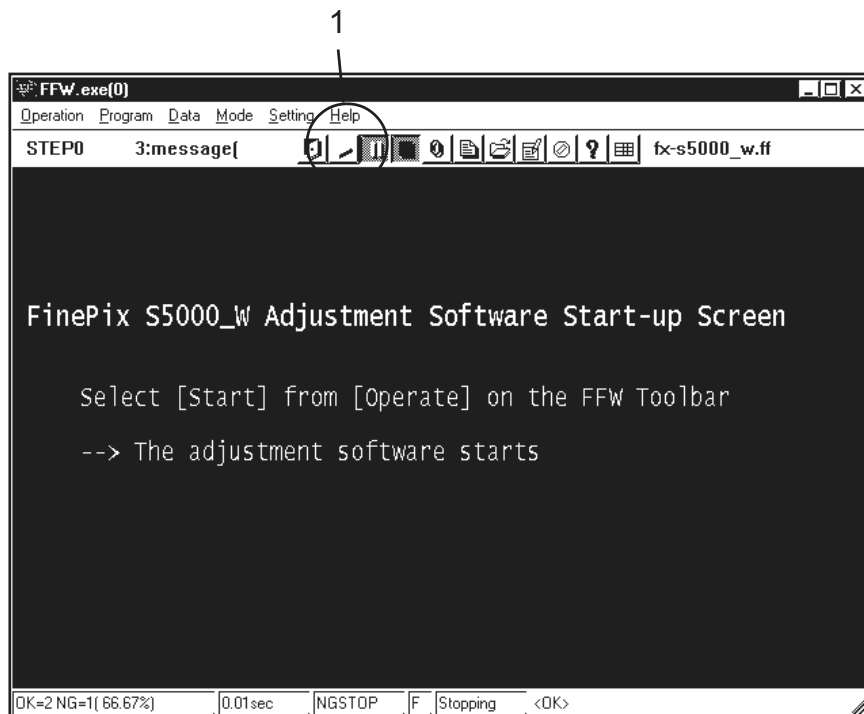

Fig.1
Double-click on [FFW.EXE] in the folder copied to the C drive to display the adjustment software start-up screen [Fig.1].
---> The [FFW.exe Start-up Screen (Fig.1)] window appears.